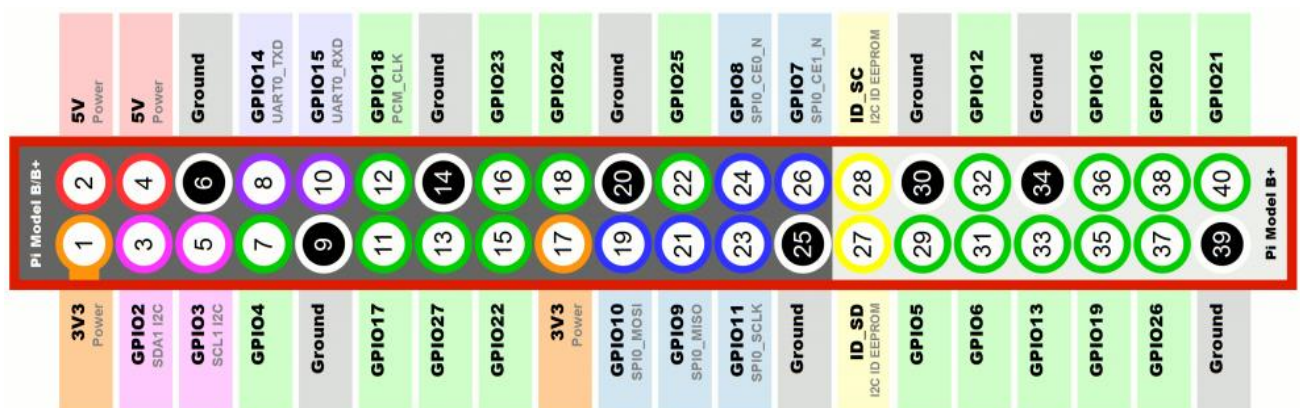

Figure 2: Raspberry Pi 3 - Model B GPIO pin
- ✓ Providing **27 GPIO pins** as well as **+3.3 V, +5 V, and GND supply lines** as shown in Fig. 2.